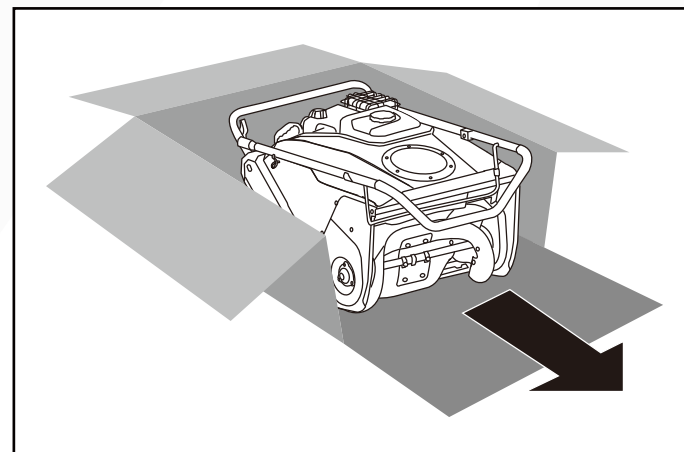

Fig.1
4. Pull the snow blower out of the box. (Fig.1)